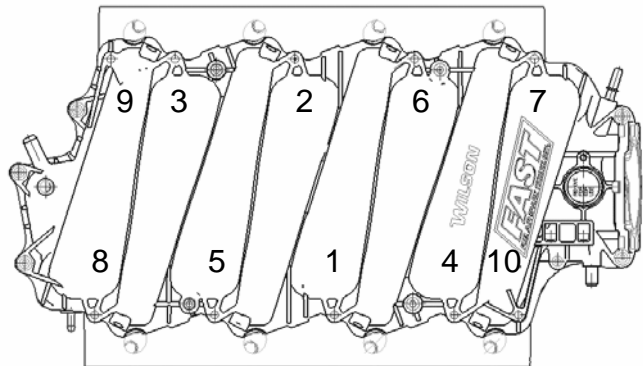

Fig.19
- 5) Using two passes in the sequence shown (Fig.19). First pass (45 in/lbs), final pass (89 in/lbs). **Caution: Over-torquing will damage the manifold and cause improper sealing!**
- 6) Throttle Body Installation: Using (4) M6 bolts provided, position to manifold, apply a dab of thread lock to M6 bolts and tighten to (50 in/lbs).